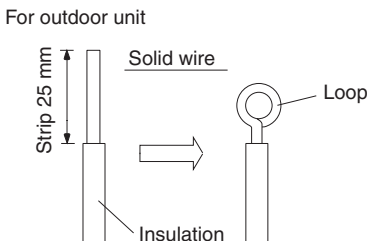

Fig. 3-54
(1) Cut the wire end with a cutting pliers, then strip the insulation to expose the solid wire about 25 mm. (Fig. 3-54)